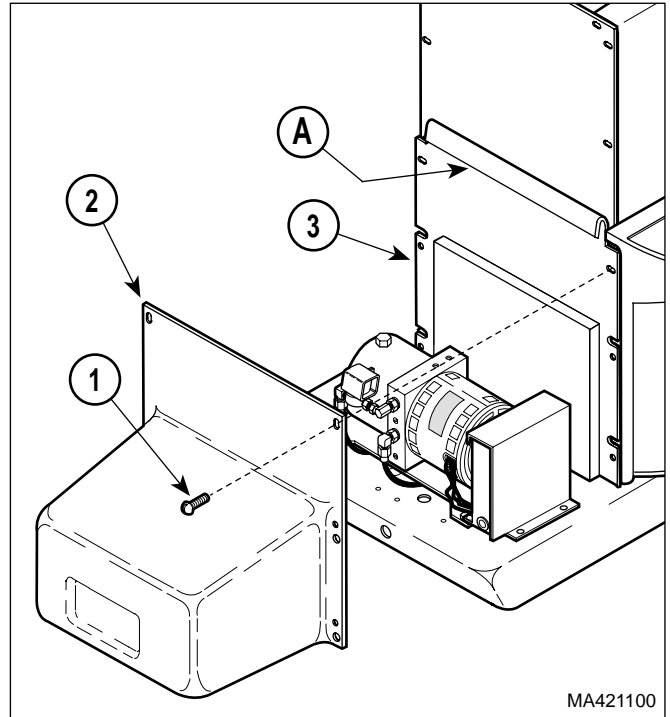

Figure 4-1. Motor Cover Assembly Removal / Installation
- (1) Unplug power cord from wall outlet.
- (2) Remove six screws (1, Figure 4-1) and motor cover assembly (2) from back outer shroud (3).